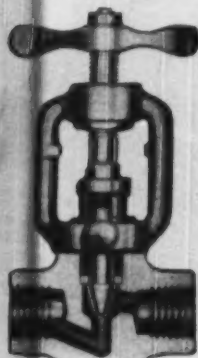

Fig. 932
**FIG. 932 SERIES**—A compact, heavy-duty valve for instrument panels, regulators, orifice meters, by-pass lines, oil field gage or instrument services, erosive lines, etc. Drop forged steel body and yoke. No possibility of bonnet joint leakage. Swing bolted gland. Fig. 932 series valves have carbon steel body with EValloy 13% chromium stainless steel trim. Fig.